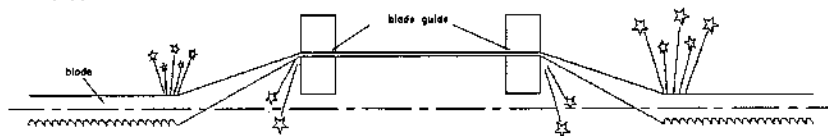

Fig 13 INCORRECT
**NOTE:** After finishing all the adjustment, be sure to double check the saw blade must not be in twisted condition. (Fig 13)